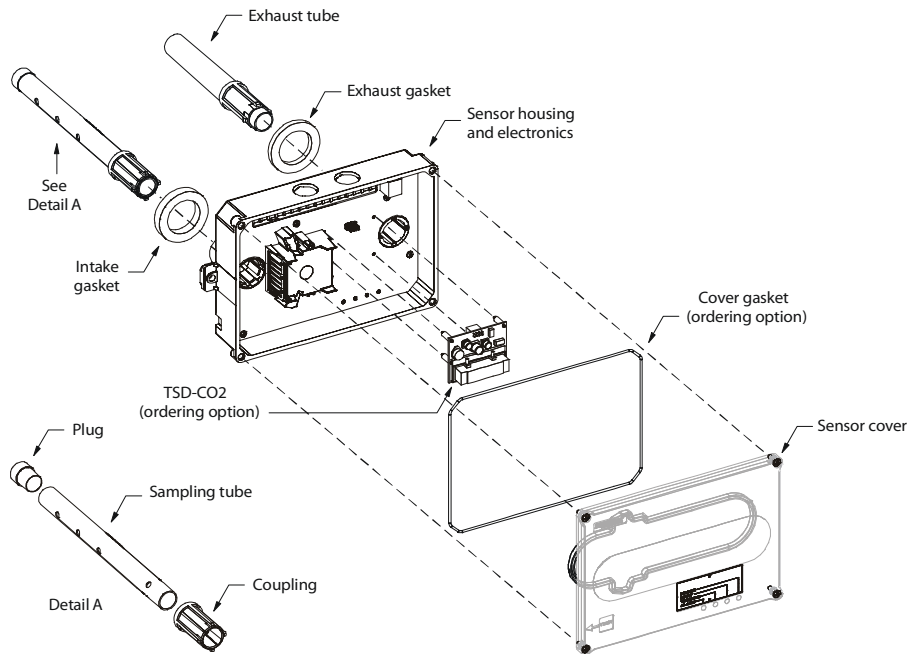

Fig. 7 - Smoke Sensor Exploded View
3. Remove plastic cover from the sensor. (See Fig. 7.)
4. Utilizing adapter from kit snap the pickup tube (RN20ZT060) into the adapter and plug the other end of the tube with red cap. (See Fig. 7.)
4. Remove plastic cover from sensor. (See Fig. 7.)